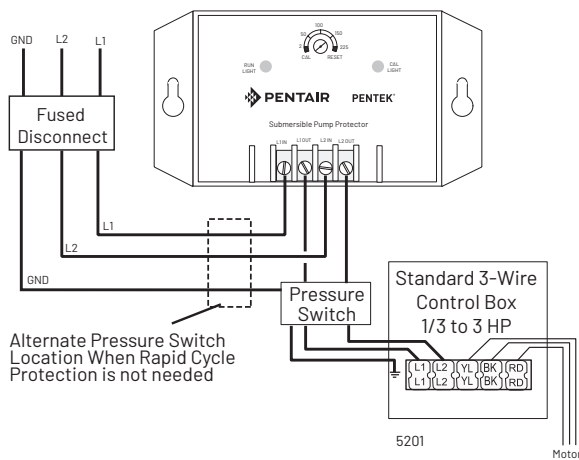

Figure 11-1: SPP233 Standard Control Box Connection
1. Connect one line from the fused disconnect to the Motor protector's "L1 IN" terminal. Run a wire from the "L1 OUT" terminal to the other in-line controls such as a pressure or float switch. See Figure 11-1.
2. Connect the other line from the fused disconnect to Motor Protector "L2 IN" terminal. Run a wire from the "L2 OUT" terminal to the other in-line controls such as pressure or float switches. See Figure 11-1.